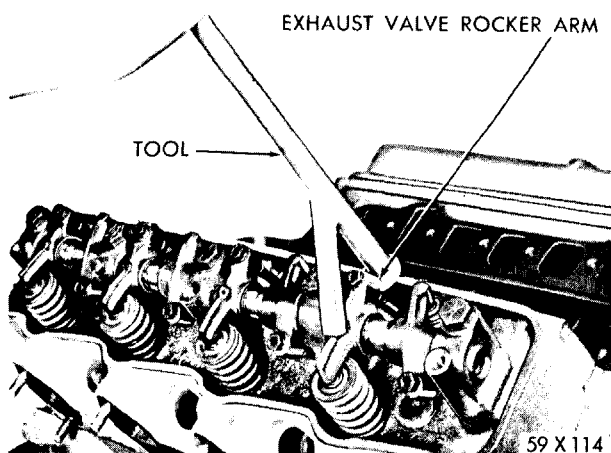

Fig. 5—Compressing Exhaust Valve Spring
(7) Install push rods with small ends in tappets. When using Tool C-3695 (Fig. 5), rocker arm valve spring compressor, to position large end of push rod under rocker arm, **make certain low point of camshaft lobe is under tappet.**
(8) Install new intake manifold gaskets and seals.
(9) Install intake manifold, with coil and carburetor, tighten manifold to 30 foot-pounds.
(10) Check the accuracy of the TDC mark on the pulley (vibration damper) by bringing the number one piston to TDC by means of an indicator placed in the spark plug opening.